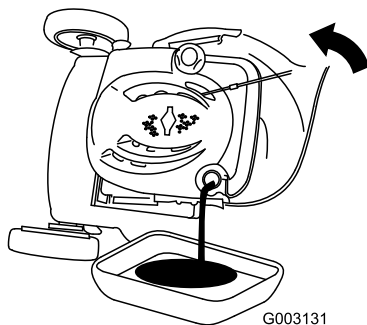

Figure 37
7. Tip the machine onto its side, with the oil-fill tube down, to drain the used oil out through the oil-fill tube into the oil-drain pan (Figure 37).